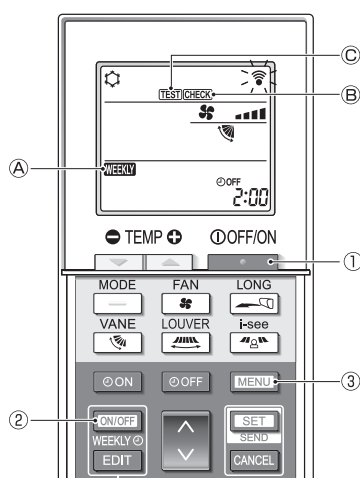

Fig. 5-1
1. Testrun (Fig. 5-1)
- Press the **STOP** button ① to stop the air conditioner.
- If the weekly timer is enabled (**WEEKLY** ② is on), press the **ON/OFF WEEKLY** button ② to disable it (**WEEKLY** ② is off).
- Press the **MENU** button ③ for 5 seconds.
- CHECK** ④ comes on and the unit enters the service mode.
- Press the **MENU** button ③.
- TEST** ⑤ comes on and the unit enters the test run mode.